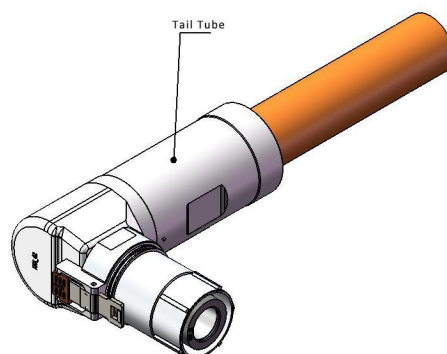

Fig. 16
4.2.4. The tail pipe is screwed to the thread at the end of the elbow and screwed in place, as shown in Figure 16